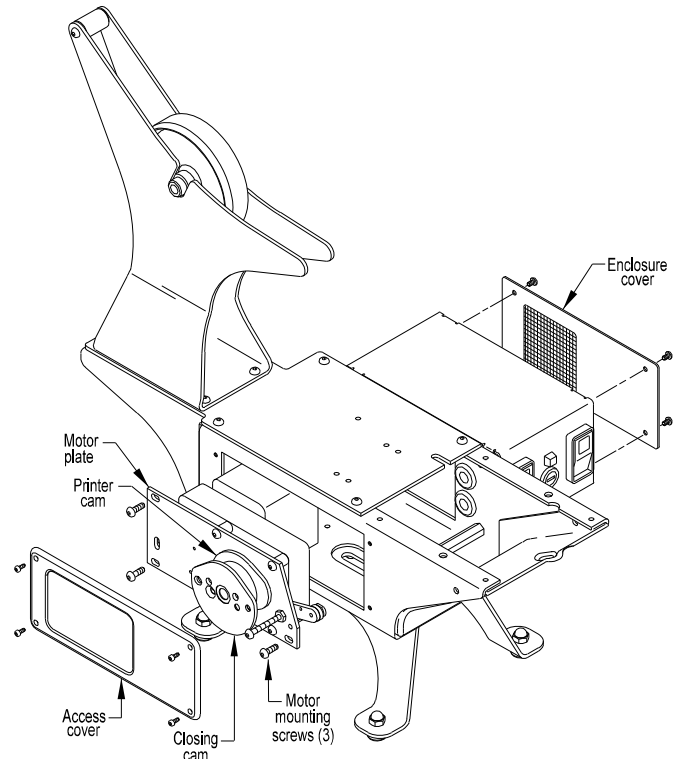

Figure 3.10
J. MOTOR REMOVAL: (Figure 3.10):